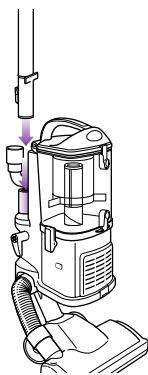

Fig. 9
- 3 Attach the end of the extension wand to the tube on the back of the detachable canister until it clicks into place. **(Fig. 9)**
- 6 Insert the end of the stretch hose **(c)** into the connector on the back of the detachable canister. **(Fig. 9)**